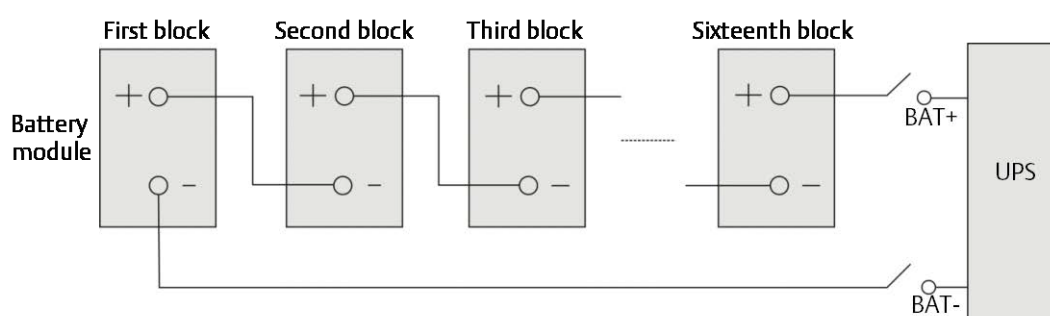
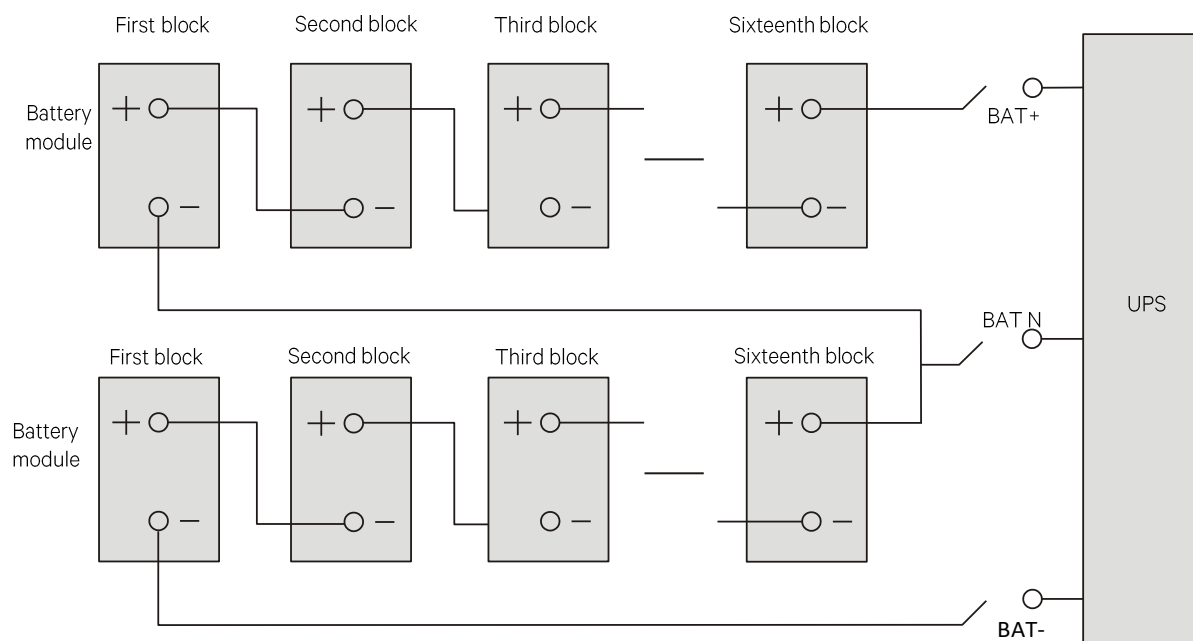

Figure 2-28 Battery string connection principle diagram (5kVA/6kVA/10kVA)
Figure 2-29 Battery string connection principle diagram (16kVA/20kVA)
1. 5kVA/6kVA/10kVA: The default battery number of the UPS is 16-block. The external battery string connection principle diagram is shown in Figure 2-28.
2. 16kVA/20kVA: The default battery number of the UPS is 32-block (16-block for positive and 16-block for negative). The external battery string connection principle diagram is shown in Figure 2-29.
1. As shown in Figure 2-28 and Figure 2-29, one DC battery MCB must be added between the battery strings and the UPS.